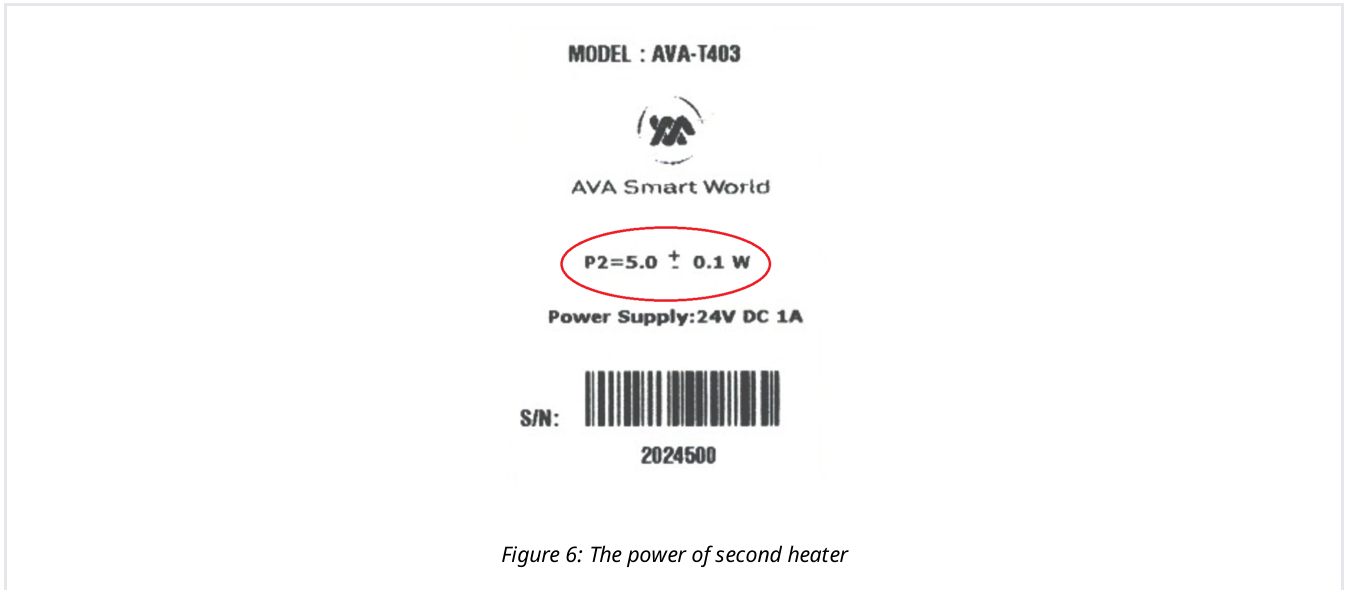

Figure 6: The power of second heater
4. As shown in Figure 5, there is one switch for turning the fans on and off () and there are also three switches for turning on the heater (  ). The icon for each switch is stamped below it. The first heater is a 1.95 W heater, the power of second heater is written on the device as shown in Figure 6, and the power of third heater is unknown.